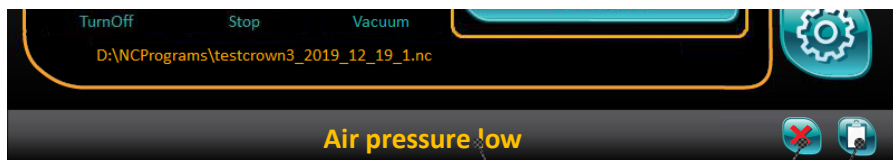

Figure 14 **Status bar**
All management messages as well as improper operating modes and operations [Figure 14 / 1] detected by the machine are displayed in the status bar of the touch screen [Figure 12 / 6].
The error messages must be confirmed each time by touching reset button  [Figure 14 / 2].
Several, simultaneous error are displayable by touching error list button  [Figure 14 / 3].
- **RUN** indication appears in the status bar [Figure 14 / 1]